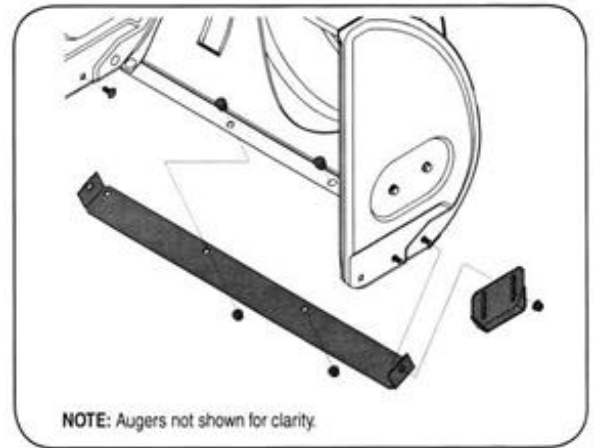

Figure 13
1. Remove the four carriage bolts and hex flange nuts which secure them to the snow thrower. See figure 13.
2. Reassemble new skid shoes with the four carriage bolts (two on each side) and hex flange nuts. See Figure 13.